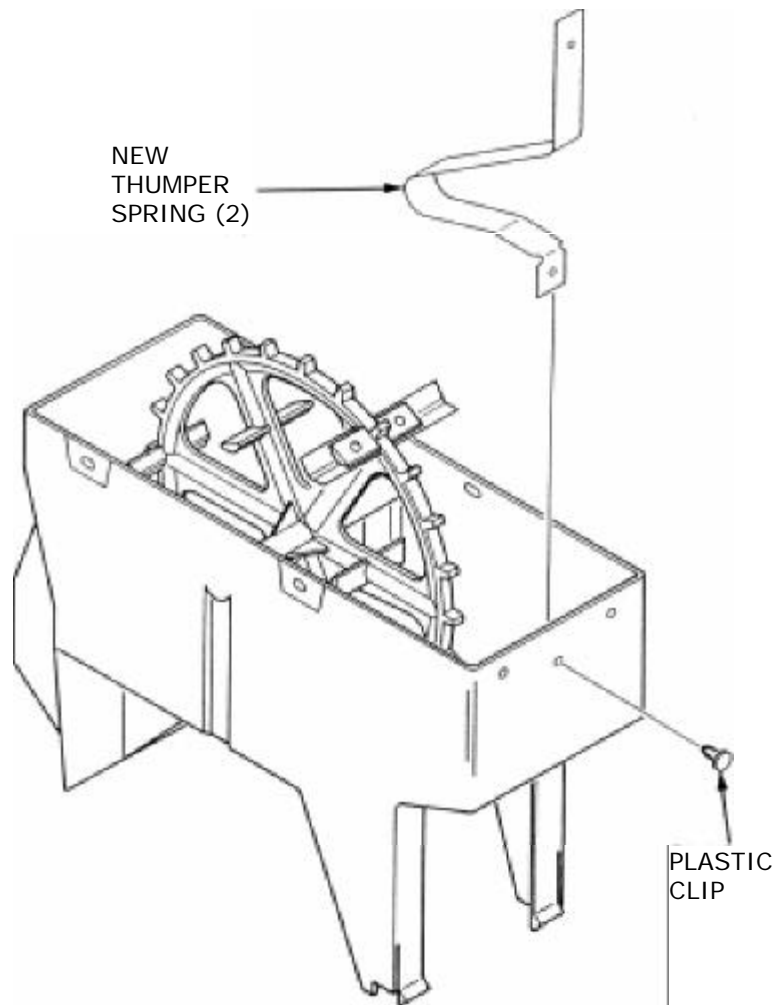

Figure 5.
6. See figure 5. Install the new thumper spring (2) and secure it with the plastic clip you removed previously.
7. Cut out the template (3) and fold it as shown on the template sheet.